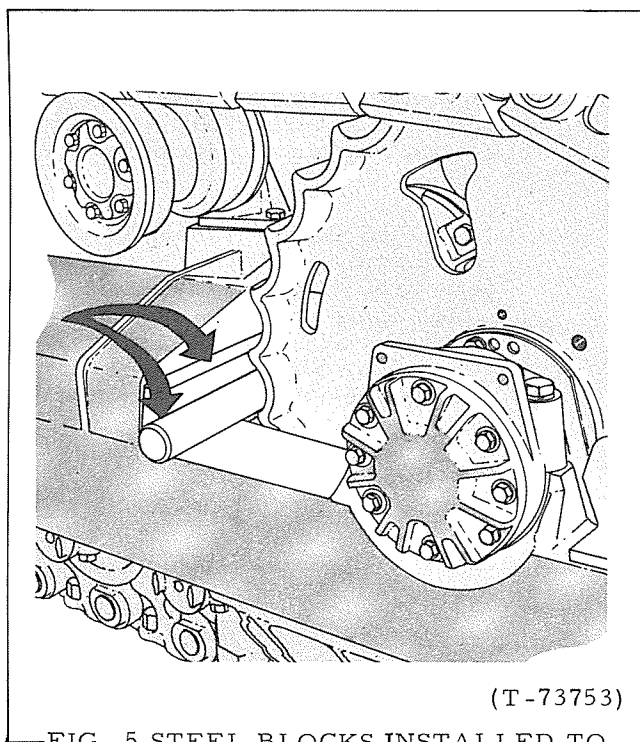

FIG. 5 STEEL BLOCKS INSTALLED TO BLOCK TRACK SPROCKET (12G Shown)
- b. Block both sprockets with steel, Fig. 5, and move transmission control lever to 2nd forward position. Slowly accelerate engine to full throttle and take rpm reading; decelerate engine and return transmission control lever to neutral.
NOTE: Apply brakes or install steel blocks in both sprockets, Fig. 5, to hold unit stationery when checking pressure.